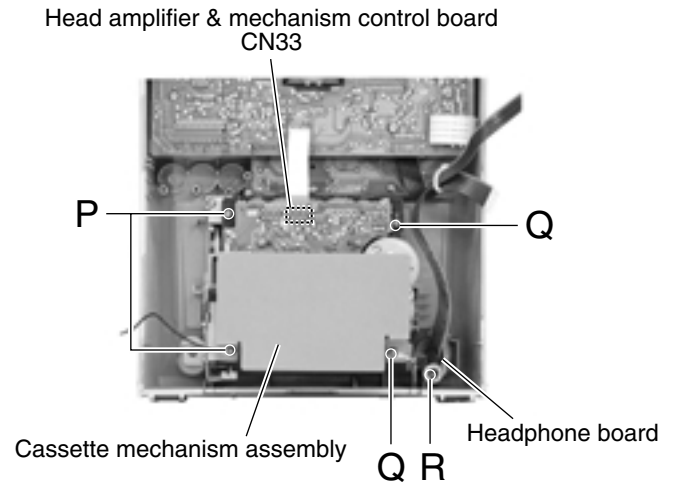

Fig.30
■Removing the cassette mechanism assembly (See Fig.30)
■Removing the headphone board (See Fig.30)